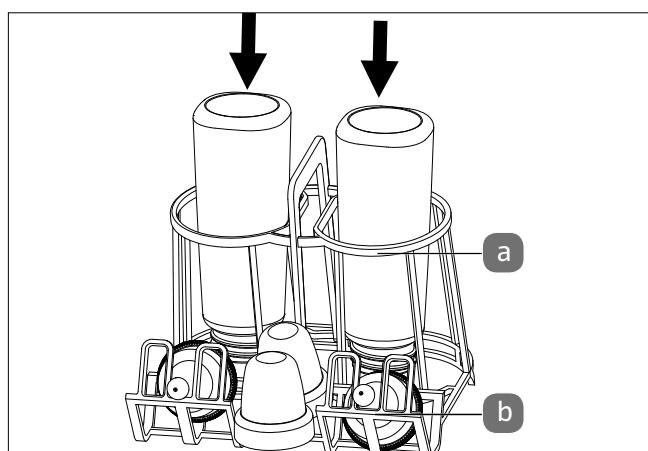

Fig. 21 – Using the baby bottle holder
To clean baby bottles, place the baby bottle holder (8) in the dish rack and place the bottles with the opening facing downwards in the basket opening (a) (see Fig. 21).